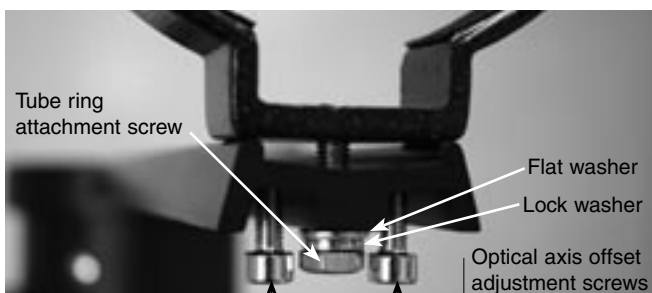

Figure 3. The tube ring mounting plate.
- Attach the tube mounting rings to the tube ring mounting plate using the screws that come with the tube rings. The screws should go through the center holes in the ends of the mounting plate and rethread into the tube rings. Note that the side of the mounting plate with the central “groove” will be facing up (Figure 3). Use a small wrench to secure the tube rings to the mounting plate.
tion before proceeding (Figure 3).